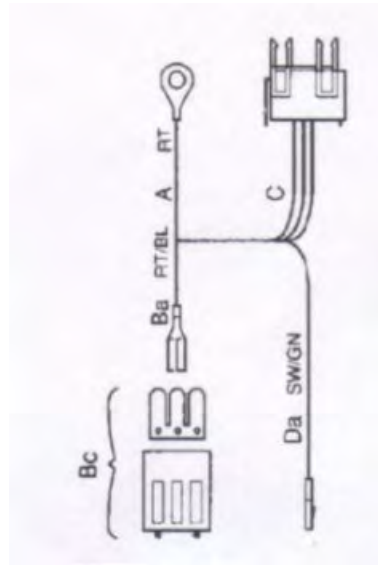

Figure 19 – Power Supply Harness
6.1 The power supply harness is shown in Figure 19. Note Cables A, Ba/Bc, C and Da. Begin under the driver's side dash.